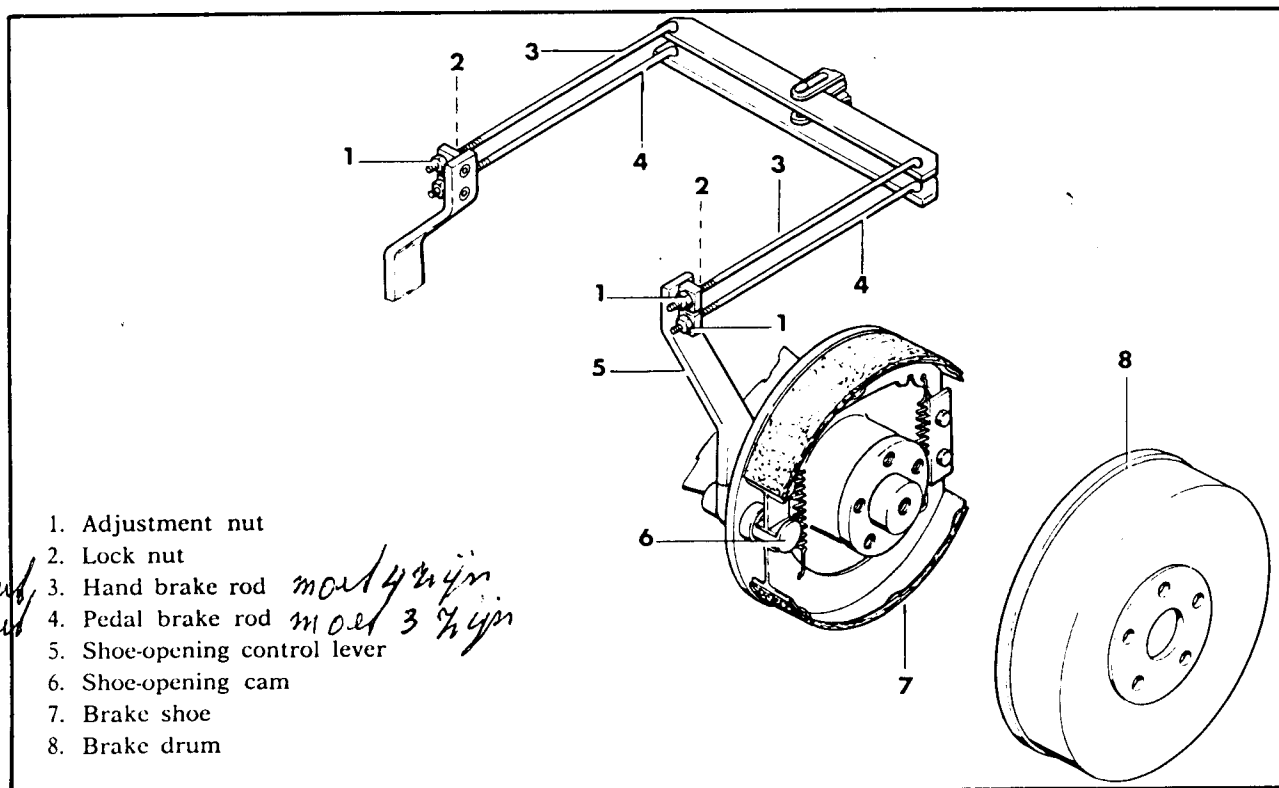

Figure 15 - Brake adjustment
If adjustment of the rod (3, Fig. 15) is not sufficient to establish a correct braking action (the lock nut 2 has reached the bottom of the thread) the brake drum must be removed in order to check the conditions of the friction linings. If wear of the friction linings is excessive, replace the shoes (7); otherwise, adjust the shoe-opening cam as follows:
1. Release the shoe-opening control lever (5) from the rod (3).
2. Remove the shoes (7) from the opening cam (6).
3. Rotate the cam (6) one spline tooth in the direction of action of the control lever (5), keeping the said lever stationary.
4. Connect the rod (3) again and adjust the brakes so that the control pedal has an idle stroke of less than 3/4".